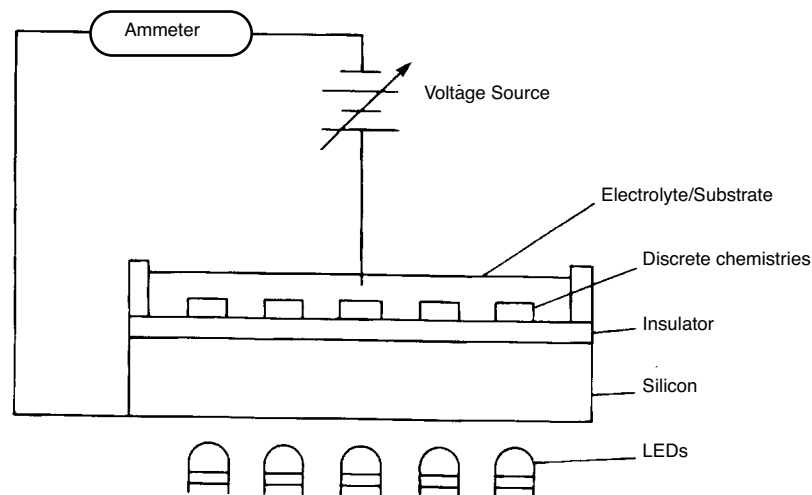

Figure 1-7: Structure of the LAP Sensor
- The LAP sensor is equivalent to a capacitor, across which alternating current may flow. The components of the capacitor are the electrolyte, the insulator, and the silicon chip. To complete the electrical circuit, the LAP sensor uses these components: a counter-electrode and a Reference Electrode (to contact the electrolyte), an adjustable DC voltage source, an AC ammeter, and a gold wire contact to an uninsulated spot on the silicon (Figure 1-7).